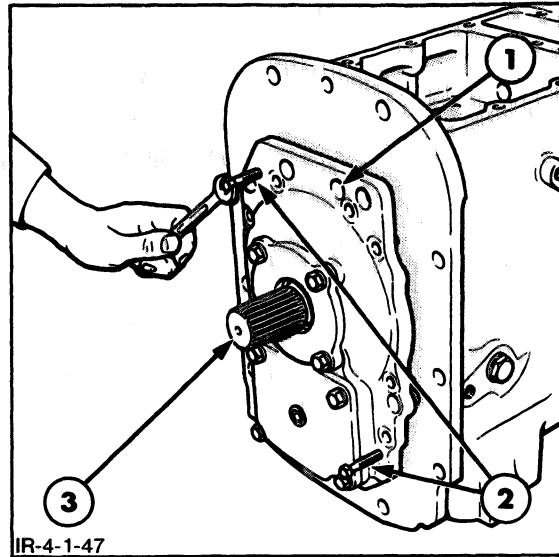

FIGURE 4-46
3. Remove the rear cover retaining bolts, then screw two jacking bolts into the rear cover as shown in Figure 4-46. Tighten the two jacking bolts equally until the rear cover is free of the transmission case. Remove the two jacking bolts and remove the rear cover assembly.